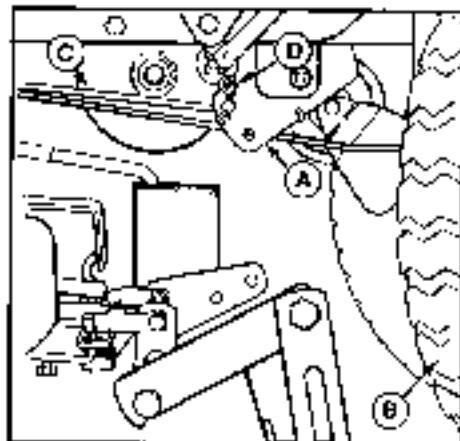

Figure 5B. PTO Rod
- Y. Attach the PTO rod to the tractor PTO lever on hole marked "MOW" with the spring clip provided (figure 5B).